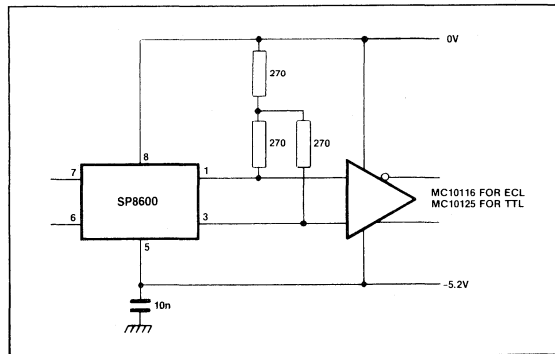

Fig.7 Interfacing to ECL and Schottky TTL
3. The outputs are in the form of complementary free collectors with about 2mA available from them over full temperature range. The outputs can be interfaced to ECL or Schottky TTL as shown in Fig. 7.